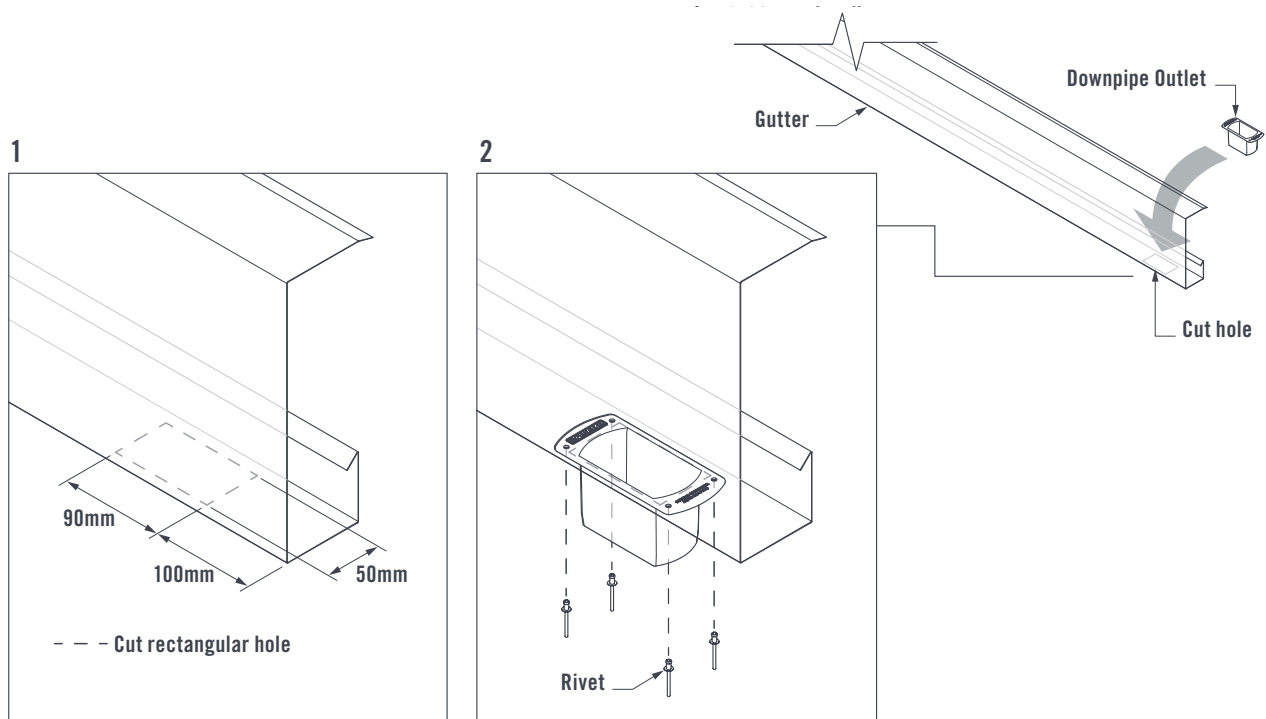

FIGURE 8.0
- 2) Fit the Downpipe Outlet into the Gutter hole. Using the holes in the Downpipe Outlet as a guide, drill four 3.5mm holes into the Gutter. Fasten four Rivets through the holes of the Gutter and into the Downpipe Outlet. Apply silicone to the gaps along the Stop Ends and Downpipe Outlet (Figure 8.0).